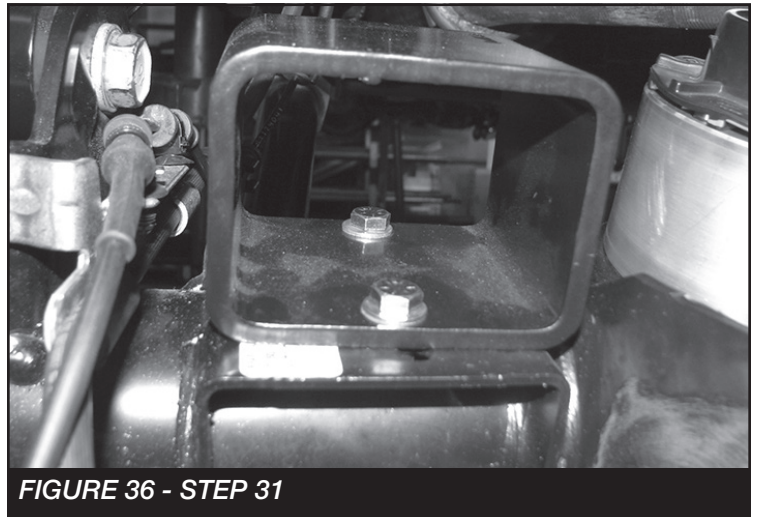

FIGURE 36 - STEP 31
31. Install the Fabtech Bumpstop spacer using the supplied 5/16 x 1" hardware for the front hole and the 5/16" x 3/4" hardware for the rear hole location. Torque to 29 ft-lbs. **SEE FIGURE 36**